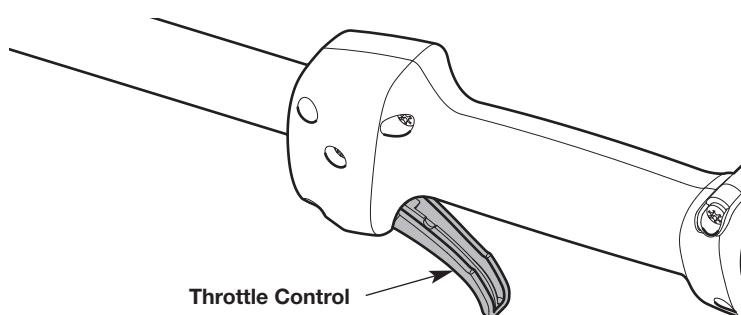

Fig. 10
- NOTE: SQUEEZE and HOLD the throttle control for ALL further steps (Fig. 10).**